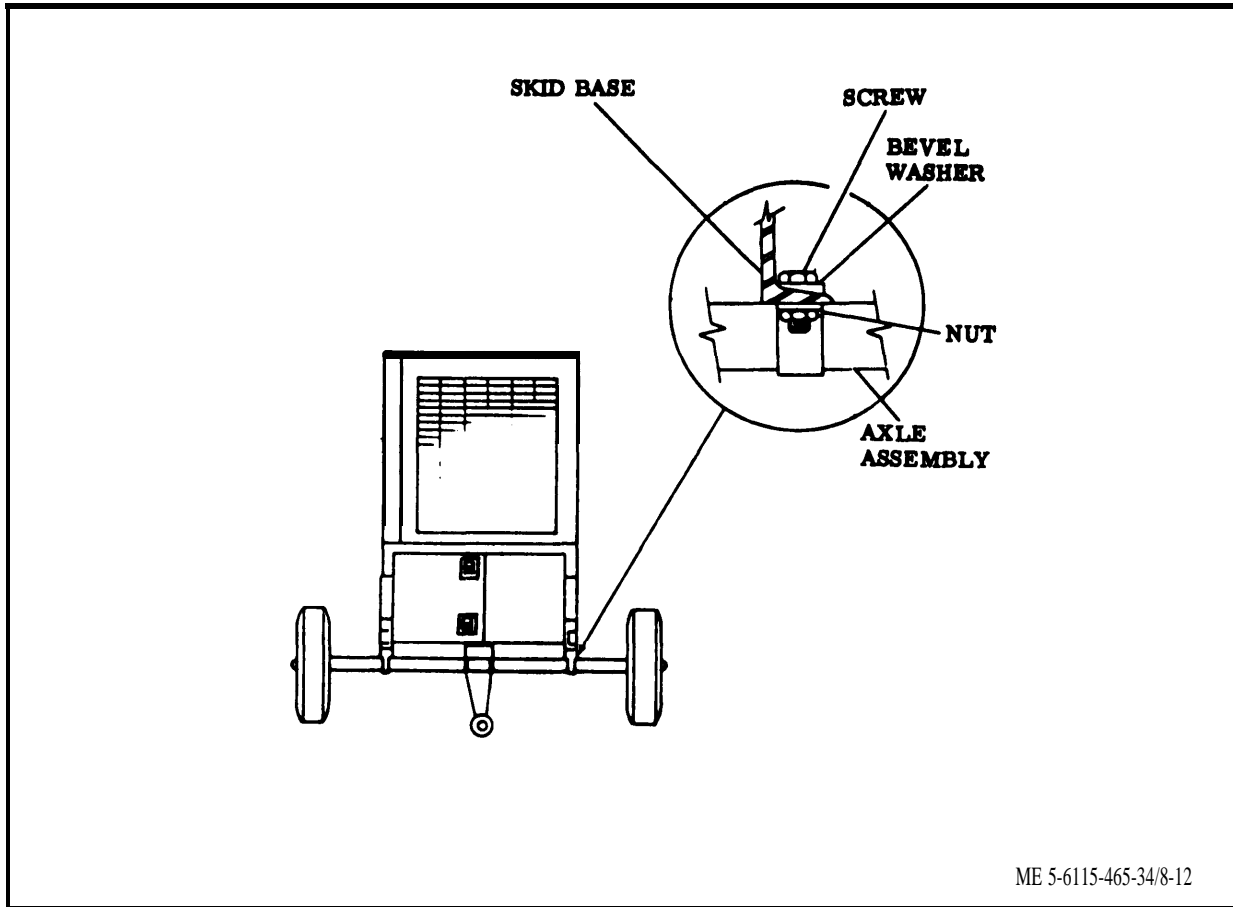

Figure 8-12. Wheel Mounting Kit Installation
(3) Lower the generator set until it is just touching axle assemblies.
(4) Install attaching hardware as shown in figure 8-12.
(5) Lower generator set until it is supported on the axle assemblies and remove hoisting equipment.